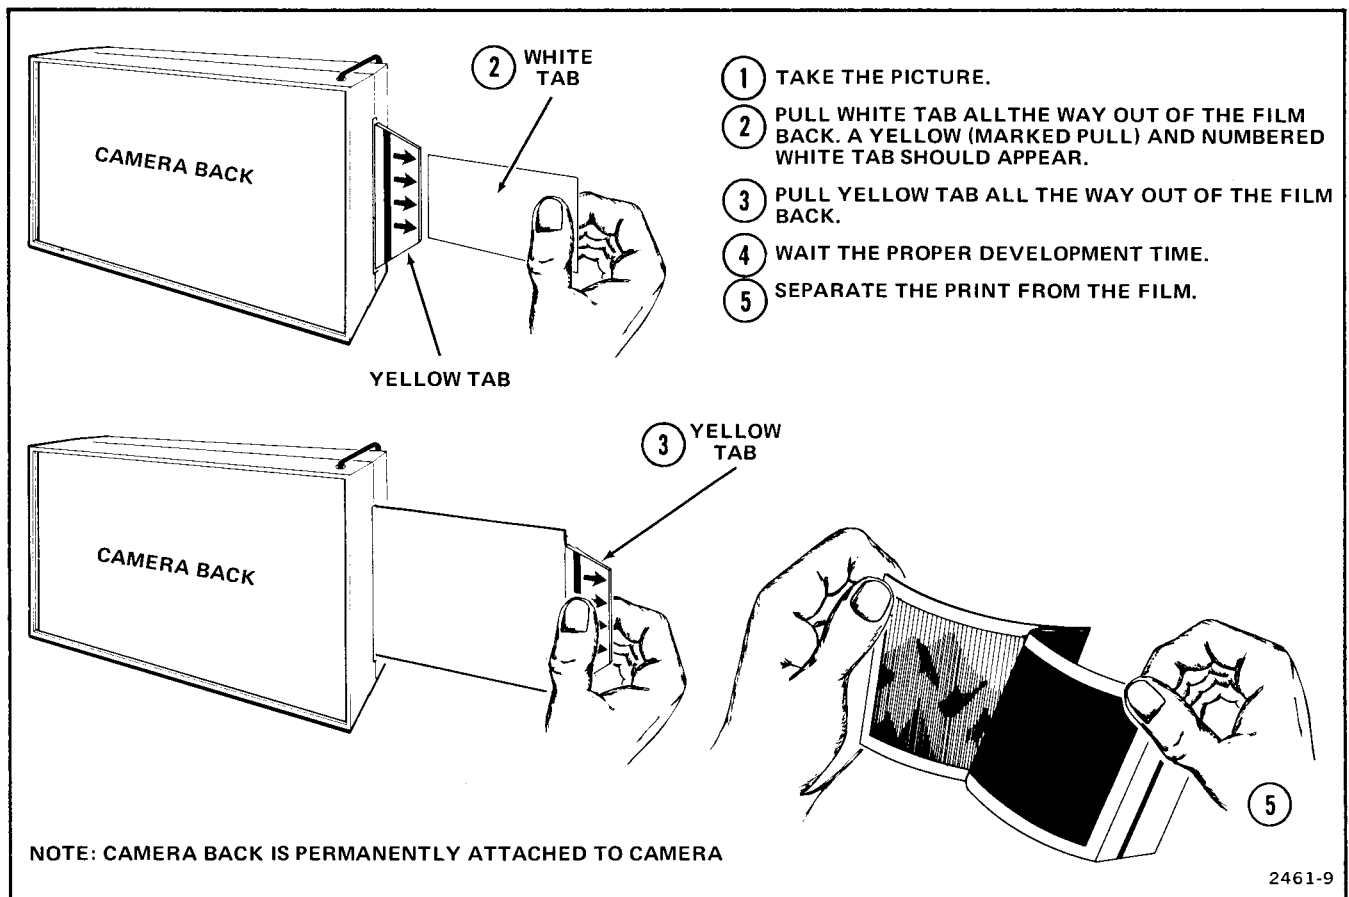

Figure 2-5. Developing the pack film.
Procedures for developing the film are identified in Figure 2-5. If a yellow tab doesn't appear when the white tab is pulled, open the film back and carefully remove the yellow tab that failed to pop out. Discard the yellow tab. Remember, a camera back that contains film should be opened in a dark condition.
7. Advance and develop the film (Figure 2-5).